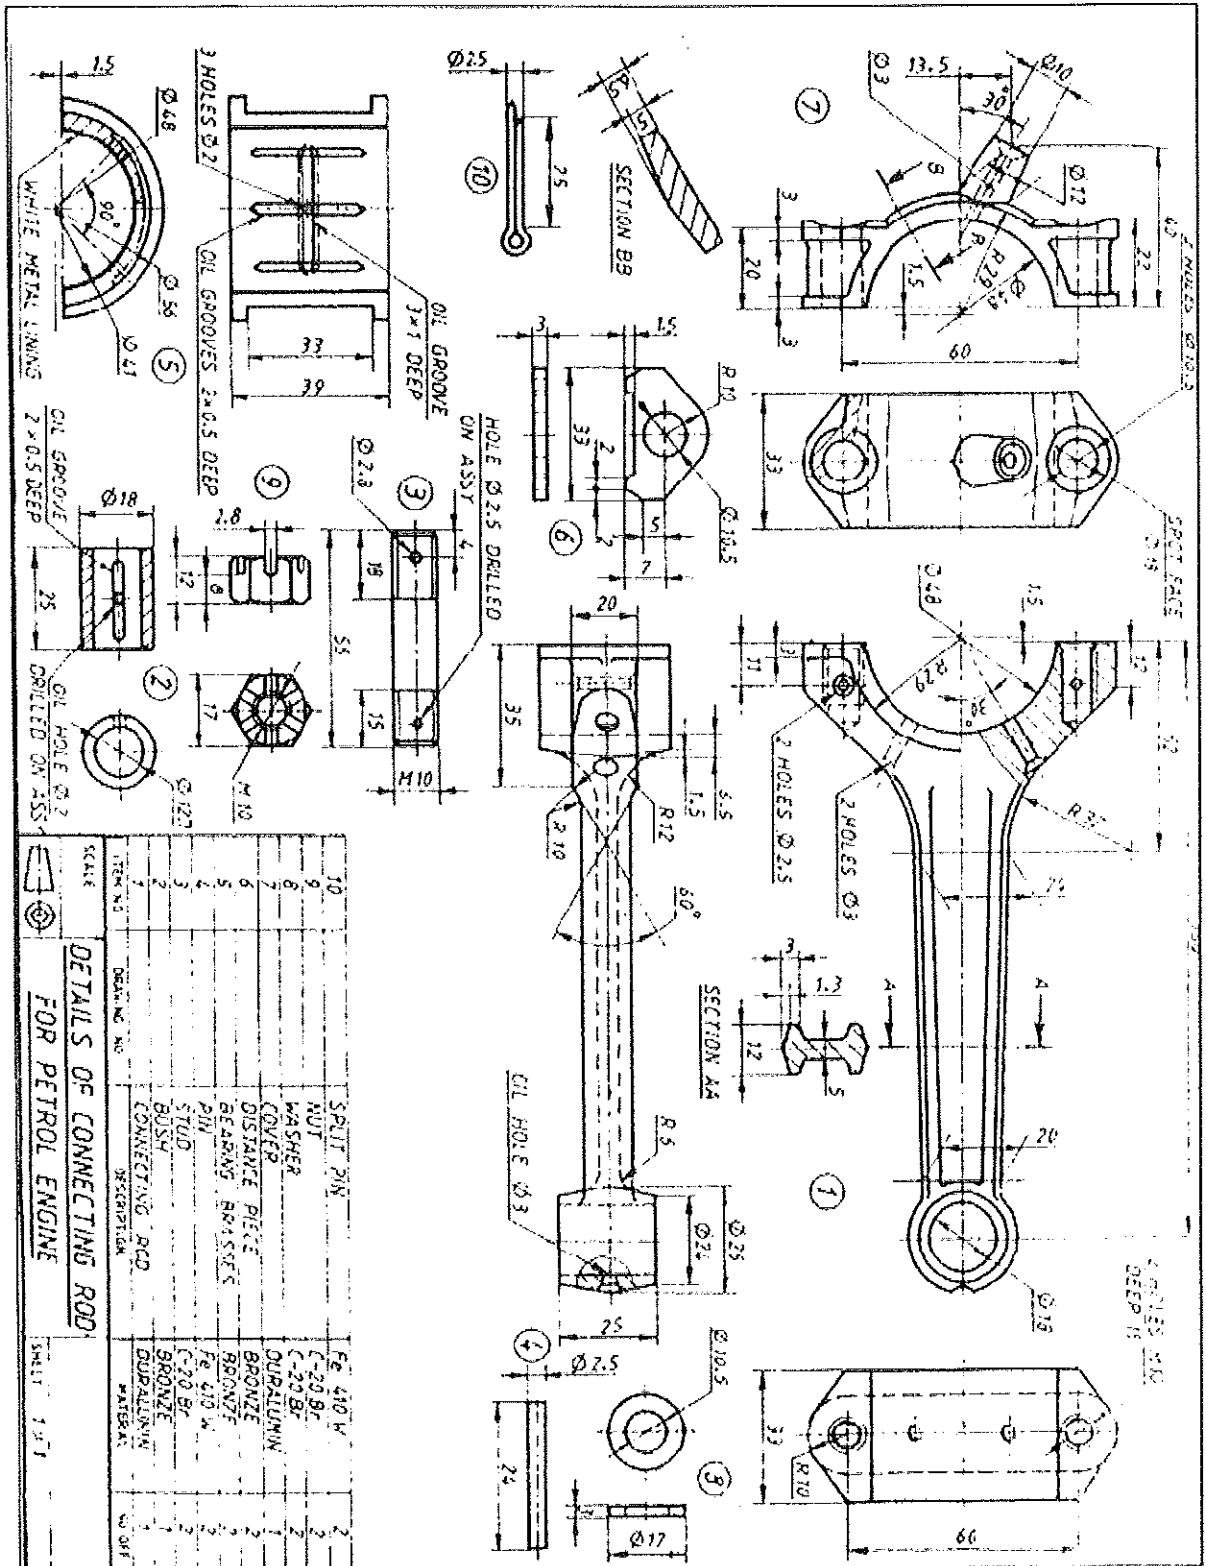

Figure 1
- Q. No. 5.** Following figure 1 shows the details of IC Engine Connecting Rod. Assemble the parts and draw i) Front view ii) Top view. **(60 Marks)**